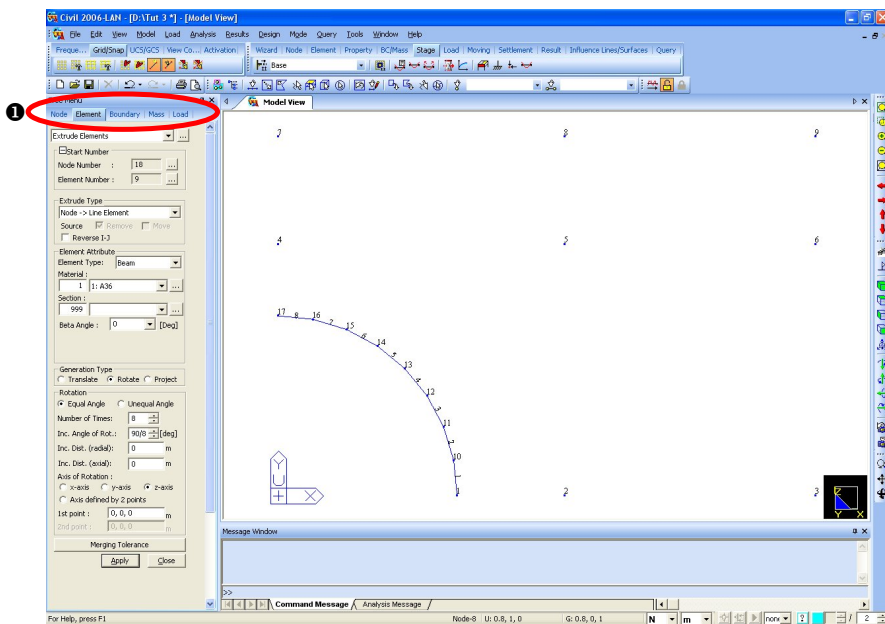

Figure 3.3 *Generation of Temporary Beam Elements around the Opening Circumference*
1. Select **Element** in the **Model Entity** tab (Fig.3.3—①).